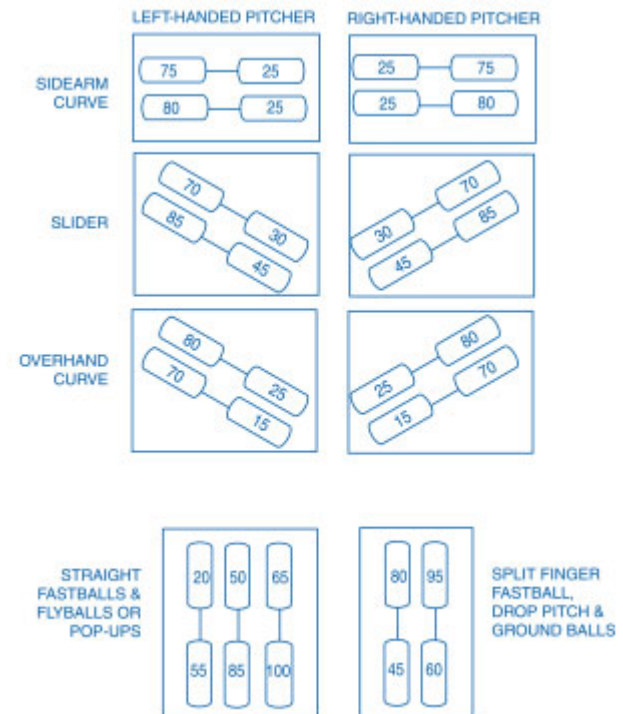

Figure 6.
2. To throw straight fastballs, you must set speed dials 35 digits apart, as shown in Figure 6. For faster straight balls, turn both speed dials up the same amount. For slower straight balls, turn both down the same amount. Always keep the dials 35 digits apart.
Use the following diagrams shown below in Figure 6 as guides for using the JUGS Curveball pitching machine. Each diagram shows the approximate tilt of the wheels. Numbers represent the speed dial settings.